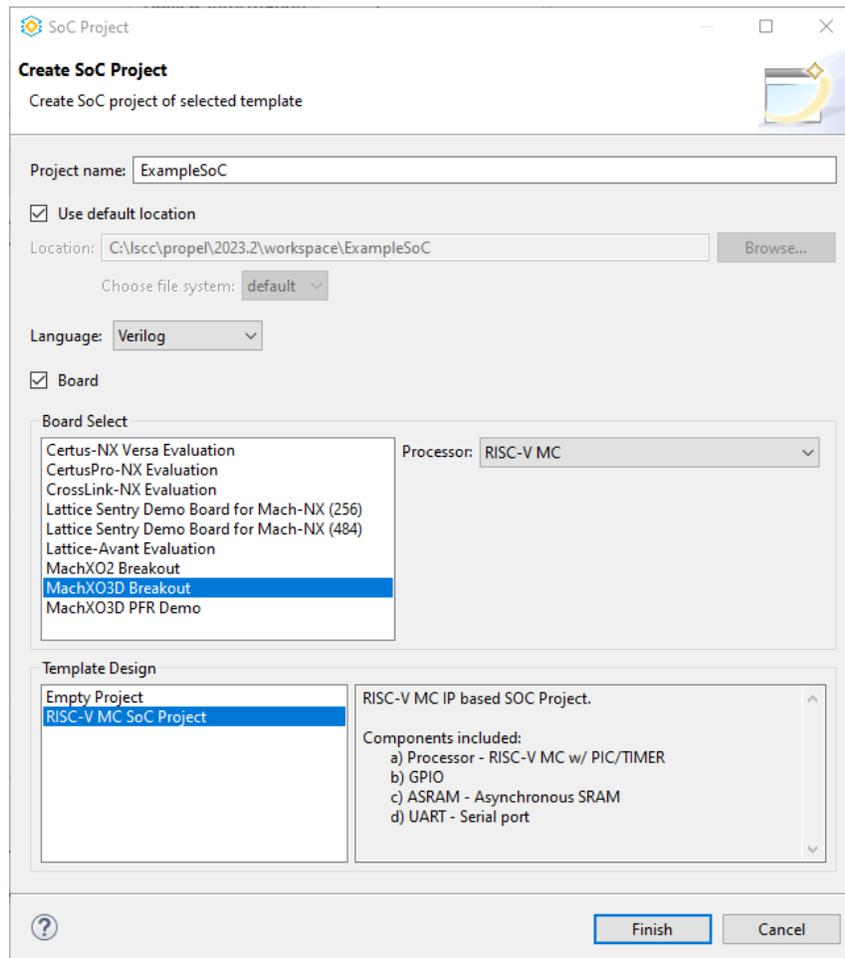

Figure 3.8. Specify a Board for Template SoC Project
- Or, to specify a board for a new Template SoC project, check the **Board** checkbox (Figure 3.8).